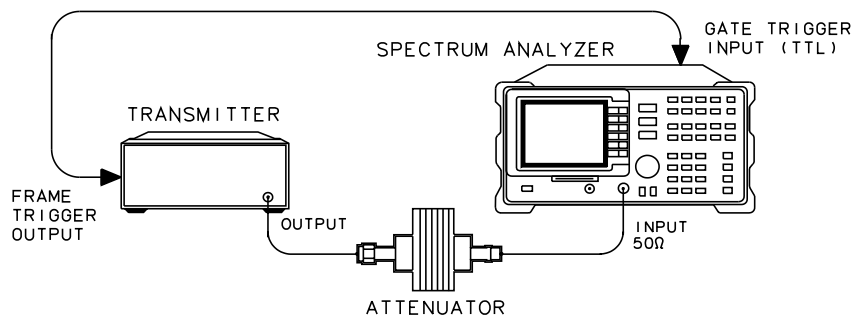

Figure 38 Test Setup for Phase and Frequency Error
- 3 Refer to Figure 38 on page 86 for the test setup.